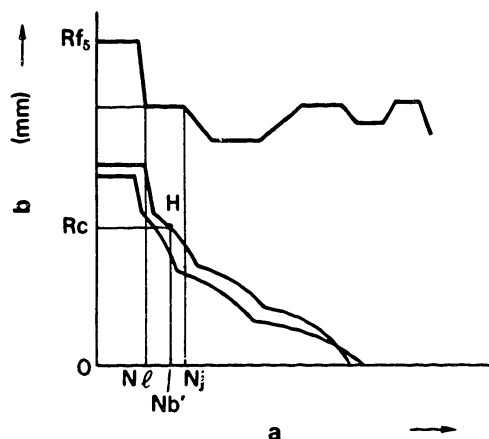

Fig. 181
2. Ensure the control rack does not move beyond  $Rf_5$  mm when the control lever is shifted toward the maximum-speed position. (Fig. 181)